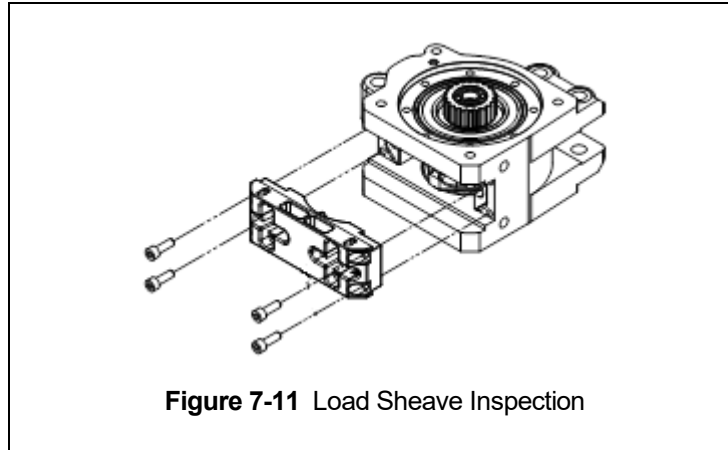

Figure 7-11 Load Sheave Inspection
7.4.1 Perform this inspection by removing the chain separator and viewing the load sheave while operating the hoist slowly, with no load, and in accordance with Section 4 "Operation". Refer to Figure 7-11 and remove the chain separator as follows: